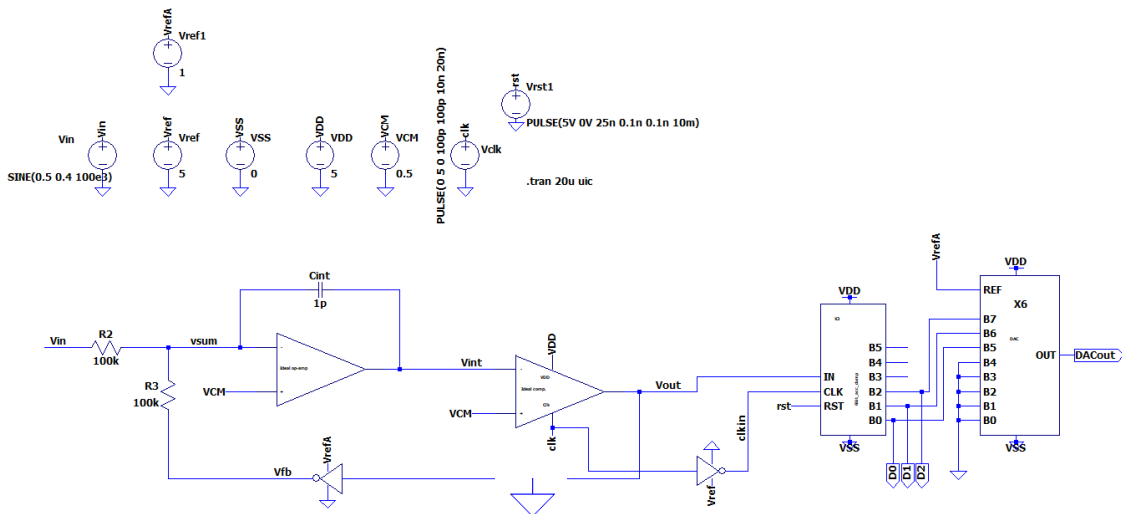

Fig. 3. Circuit to be simulated (“Ideal\_DSM.asc”)
1. Simulate circuit in Fig. 3.